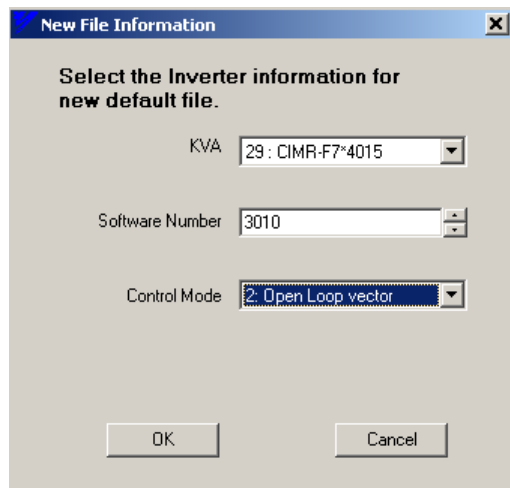

Figure 4.11: Selecting Inverter Information
2. Select the inverter family that you wish to create the new file. Only the inverters supported in the selected database will appear in the window. After making your selection, click on **OK** and the dialog box in Figure 4.11 opens.